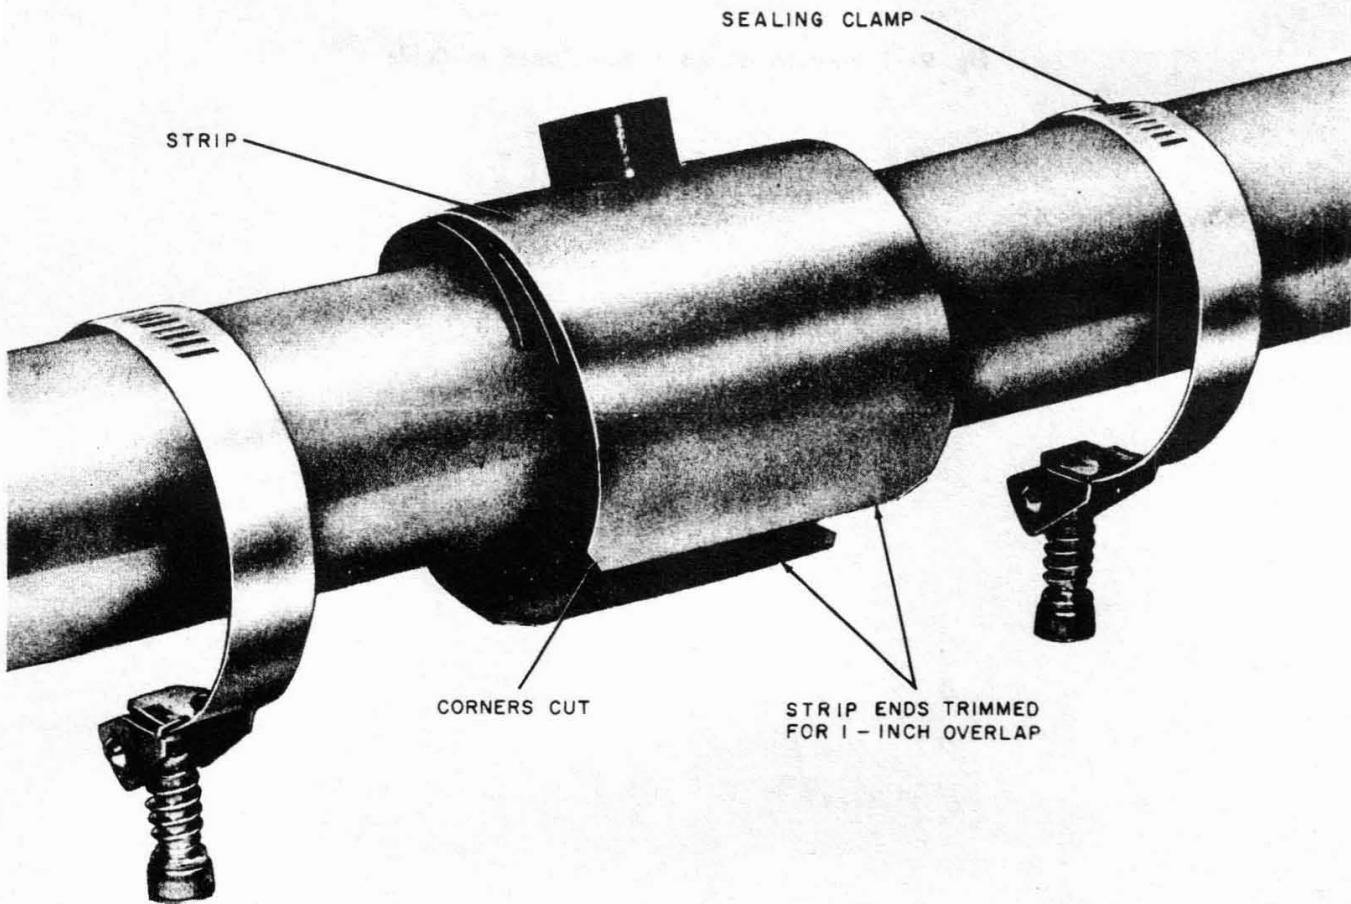
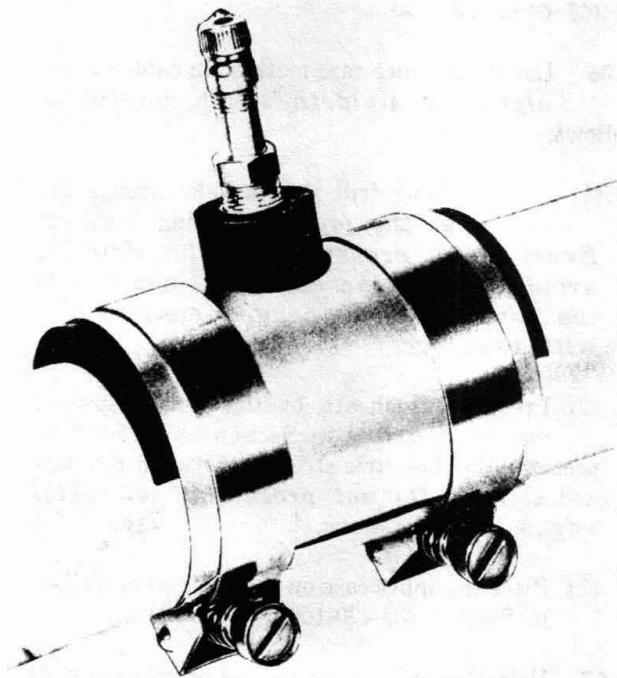

Fig. 10—Strip Formed Around Saddle and Cable
Fig. 11-F Pressure Flange Installed
(9) Place the hole in the strip of sheet metal over the flange and form the strip snugly around the flange. Using shears, cut one end of the strip so the end lies directly under the cable and parallel to it (Fig. 10).
(10) Cut the other end of the strip in like manner so that its edge overlaps the first edge by about 1 inch.
(11) Cut 45-degree 1/4-inch corners off the strip; then, smooth all cut edges with a file.
(12) Position the sealing clamps on the strip near the flange ends, with the heads of the tightening screws at the bottom of the cable, and tighten securely. Alternately tighten until both clamps are secure.
(13) **♦**Inspect the threads of the valve or fitting to be installed in the flange to ensure that they are free from burrs and nicks that would prevent a good air seal. To prevent the engaged threads from galling or seizing, the male threads shall be coated with pipe-stick, teflon pipe-sealing tape, or teflon pipe-sealing spray. Holding the neck portion of the flange between the thumb and finger, screw the valve or fitting into the brass insert of the flange, using a suitable wrench, and then tighten **carefully** until the neck portion begins to twist (approximately 40 inch-pounds torque). The F pressure flange is shown installed in Fig. 11.